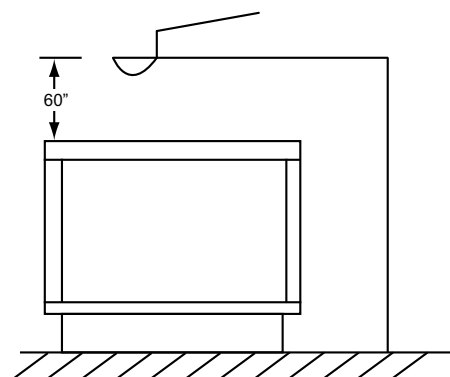

Figure 2: Air Discharge Clearance
6. **Air Circulation** – The outside coil sides should not be closer than 24 inches to a structure that will restrict air flow through the coil. The air discharge of the unit requires a 60-inch clearance between the top of the unit and any obstruction. See Figure 2.